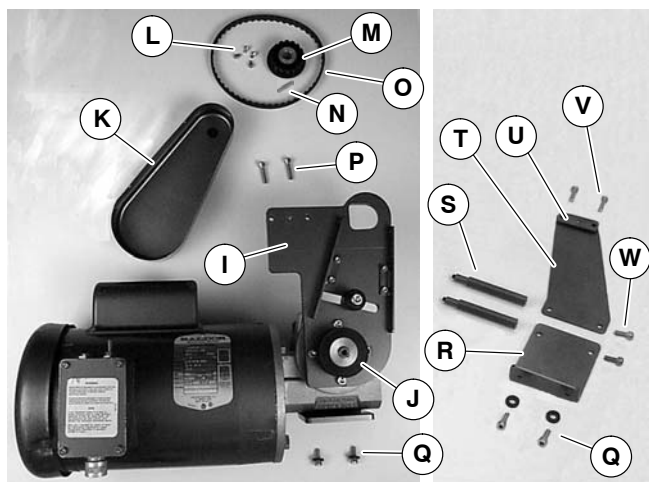

Figure 2
1. Typical components (Figure 2)
NOTE: 2100, 2200, MPB and 6200 2" & 3" (51mm & 76mm) and 4100 1" through 6" (25mm – 152mm) conveyors do not include parts R through W of Figure 2.